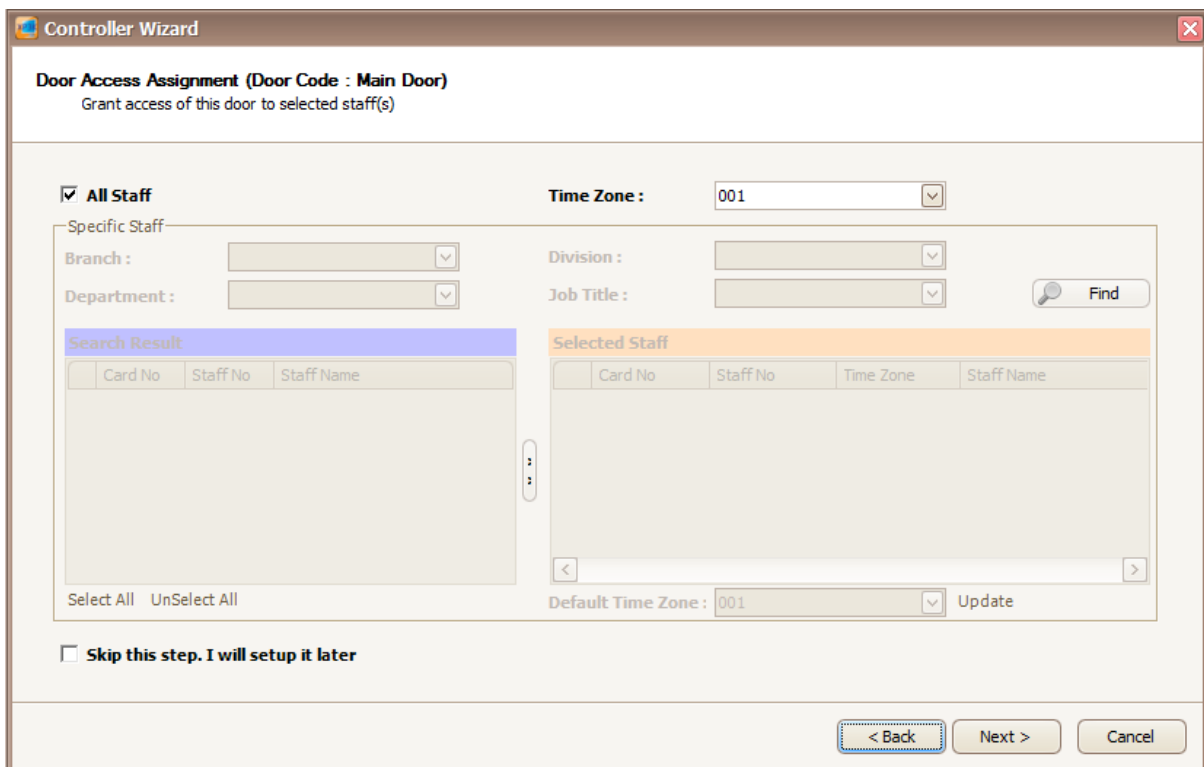

Figure 40 - Door Access Assignment
17. The following screen will be shown (Refer **Figure 40**).